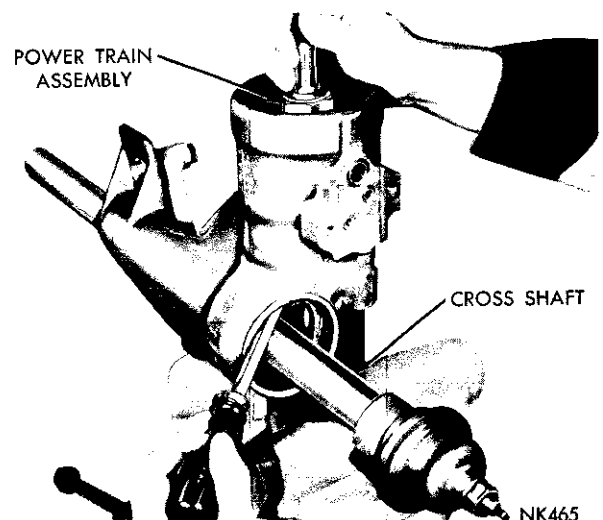

Fig. 6—Removing the Power Train
(10) While holding the worm shaft in the fully compressed position, pry up on the piston teeth with a screwdriver using the gear shaft as a fulcrum and remove the power train (Fig. 6).